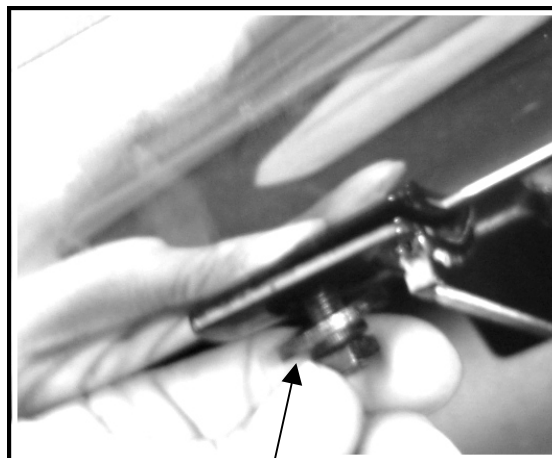

Fig 4
6. Place the bar on the brackets and install the 8MM bolts and lock washers (Fig 4)